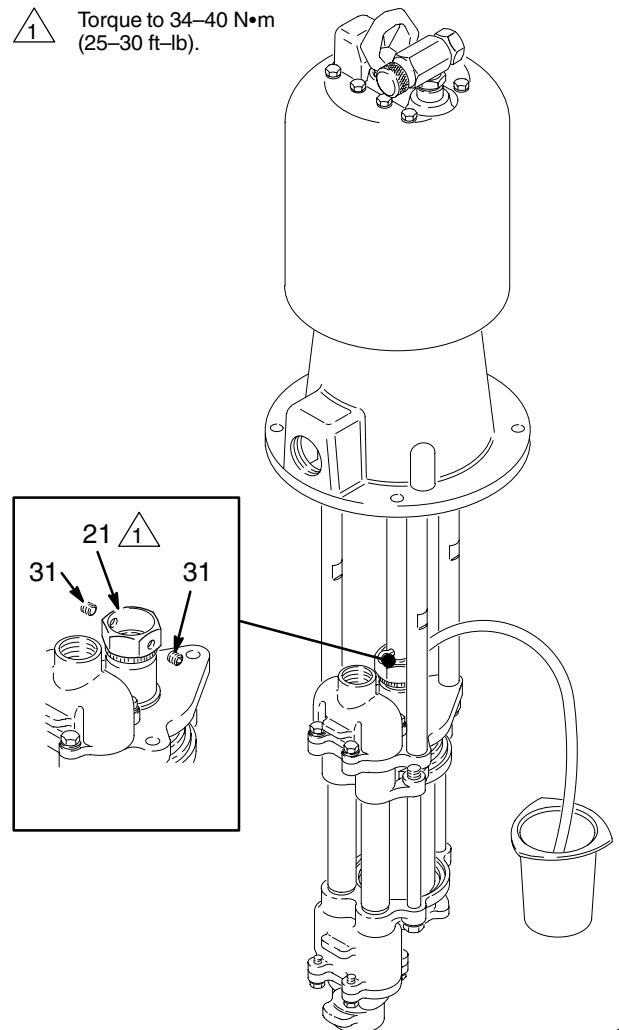

Fig. 4
The packing nut (21) should be tight enough to stop leakage, but no tighter. Overtightening compresses and damages the packings, and may cause the pump to leak, reducing performance. See Fig. 4.
To monitor leaking at the throat, remove one of the small plugs (31) from the packing nut (21). Place one end of a drain tube in the hole and the other end in a container. See Fig. 4. Monitor the drainage. If it seems excessive, and tightening the packing nut does not help, replace the throat packings. See page 20.